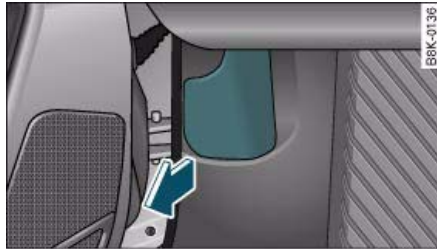

Fig. 250 Detail of footwell on driver's side: Release lever
- Pull the lever under the dashboard in the direction indicated (arrow) ⇒ fig. 250.